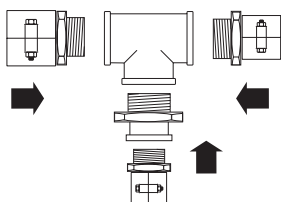

Figure 4-49: Assemble the Connection
4. Assemble the connection. See **Figure 4-49** for example of a Tee-connection and refer to **Installing WIPEX Fittings** on **page 31**.